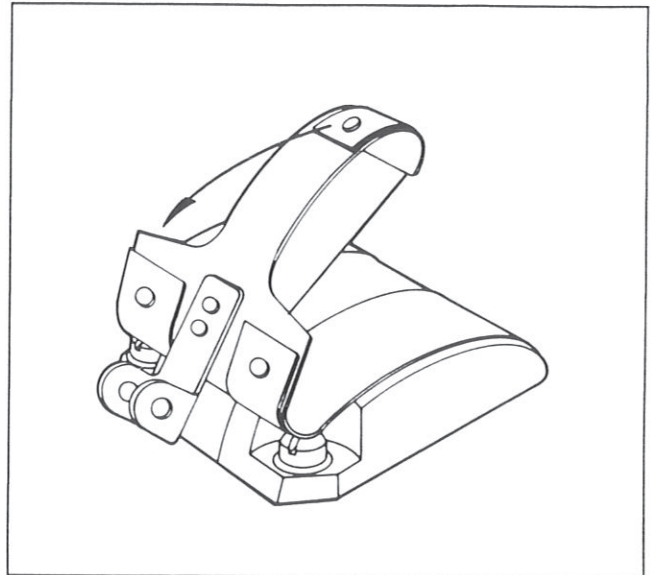
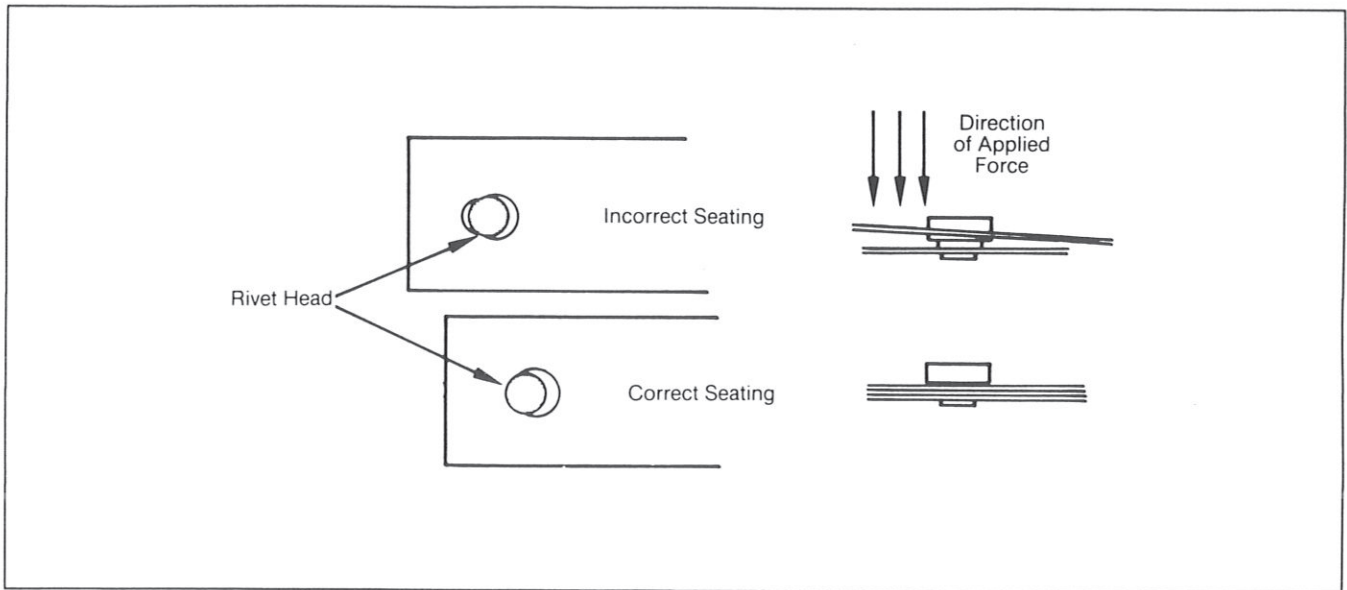

Figure 9
Figure 10
5. Tip the rocker spring and the attached edge bands forward as shown in Figure 9. Cautiously guide the bottom rivet of the rocker spring into the slot of the center band. The tensile stresses of the bands are now increased, so caution is advised. Check that all three bands are seated correctly on the rivets. A force applied perpendicular to the band will assure correct seating (reference Figure 10).